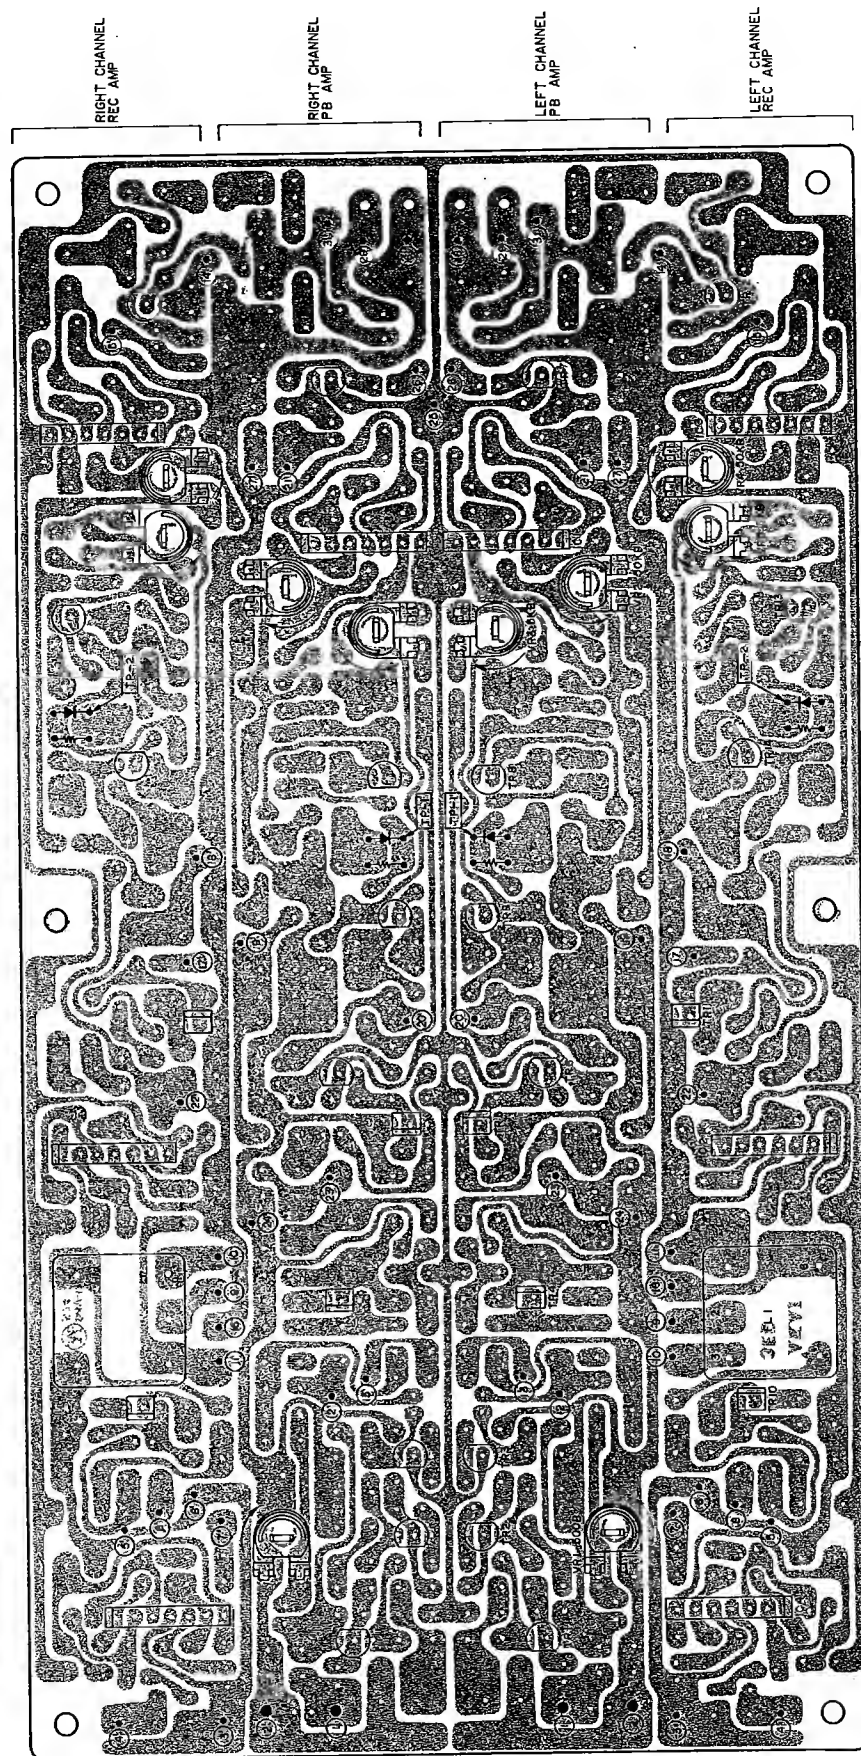

Fig. 16 Pre Amp P.C Board CA-5205
1. RECORDING/PLAYBACK AMPLIFIER ADJUSTMENT (Refer to Fig. 16, 17 and 18 and Chart-1)
2. DOLBY NOISE REDUCTION CIRCUIT ADJUSTMENT (Refer to Fig. 16)
AMPLIFIER ADJUSTMENT (Refer to Fig. 16)
- e. With the Dolby Noise Reduction Switch at ON, adjust semi-fixed resistor VR4, 50 k Ω shown in Fig. 16 to obtain a -20 dBm level at center terminal of "REC CAL" Volume.
- f. Disconnect test point TP2 from ground and adjust semi-fixed resistor VR5, 5 k Ω shown in Fig. 16 to obtain a -22 dBm level at center terminal of "REC CAL" Volume.
- d. Supply a 5 kHz signal to terminal (13) shown in Fig. 16 and obtain a -20.5 dBm line output level.
- e. Set the Dolby Noise Reduction Switch to ON and adjust semi-fixed resistor VR2, 50 k Ω shown in Fig. 16 to obtain a -30.5 dBm line output level.
- f. Disconnect test point TP1 from ground and adjust semi-fixed resistor VR3, 5 k Ω shown in Fig. 16 to obtain a -28.5 dBm line output level.